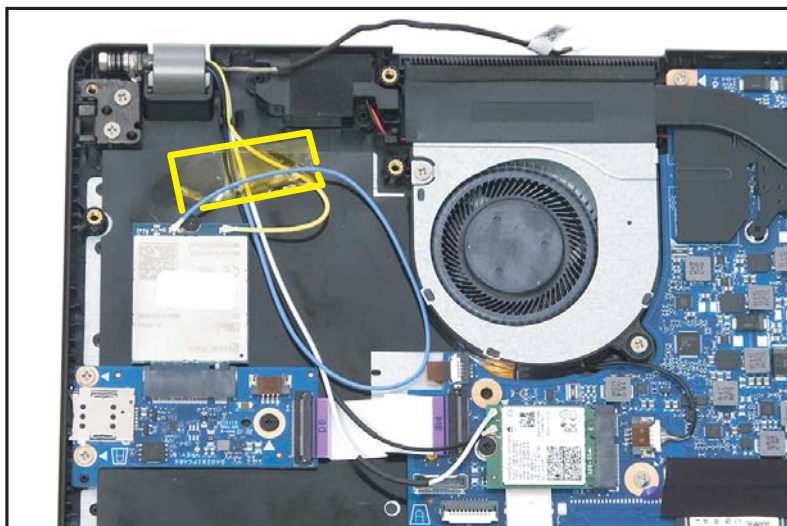

Figure 1-35. LCD Module Removal
3. Detach the adhesive tape from the antennas cables (Figure 1-35).